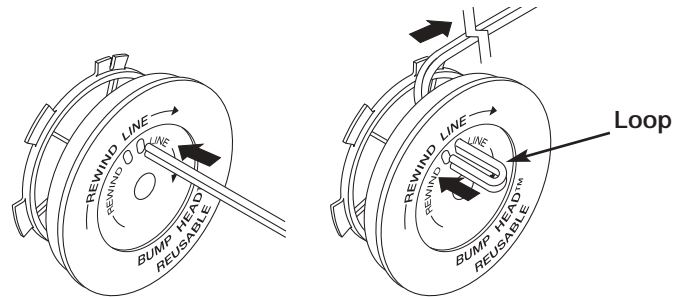

Fig. 18
- Take approximately 12 feet (3.65 m) of new trimming line. Insert one end of the line through one of the two holes in the inner reel (Fig. 18). Pull the line through the inner reel until only about 4 inches is left out.
- Insert the end of the line into the open hole in the inner reel and pull the line tight to make the loop as small as possible (Fig. 18).